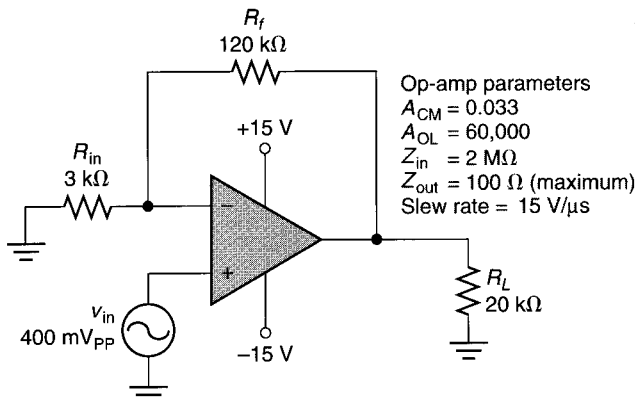

FIGURE 15.63
21. Perform a complete analysis of the amplifier in Figure 15.63.